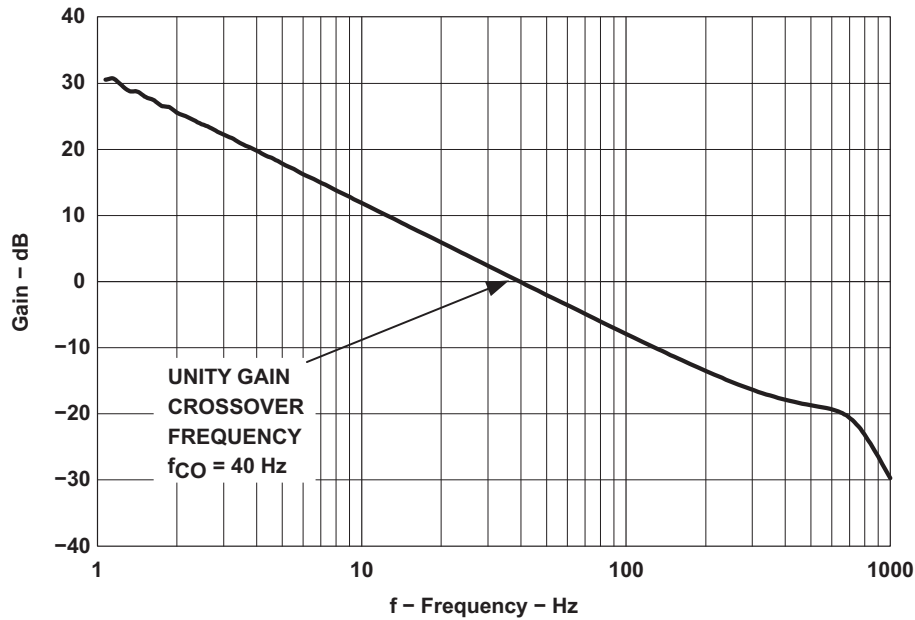

Figure 8. Power Module Bode Plot
The total load-share loop unity-gain crossover frequency, f_{CO} , must be set at least one decade below the measured crossover frequency of the paralleled modules previously measured, $f_{CO(module)}$. (See Figure 8) Compensation of the transconductance error amplifier is accomplished by placing the compensation resistor, R_{EAO} , and capacitor, C_{EAO} , between EAO and GND. The values of these components is determined using Equation 8 and Equation 13.
- $G_{MODULE}(f_{CO})$ is the measured value of the gain from Figure 8, at the desired crossover frequency.